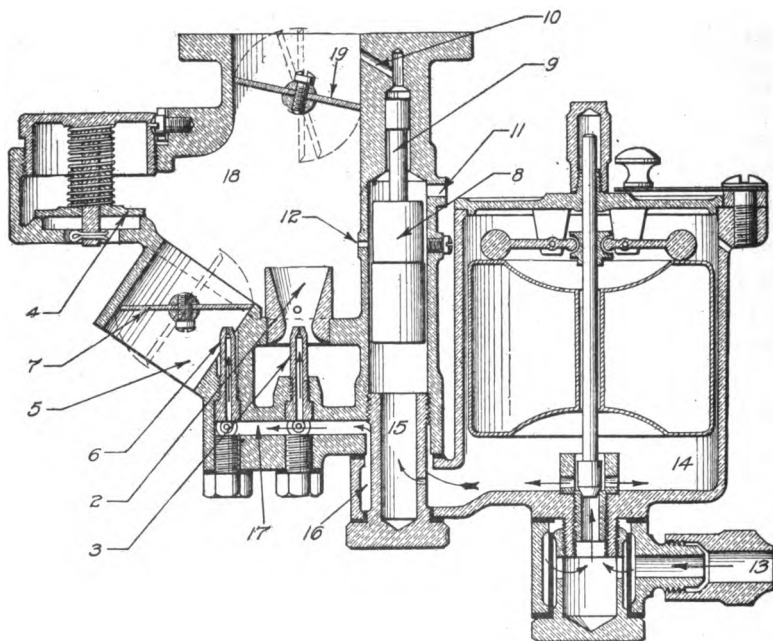

Fig. 105. Section through Ball and Ball Two-Stage Carburetor
**Ball and Ball Carburetor.** The Ball and Ball device has been developed by Frank H. and Frederick O. Ball and is named after them, but it is manufactured and sold by the Penberthy Injector Company. In all its forms, as used on a number of different cars, whether single or double, horizontal or vertical, it is a two-stage instrument. These two stages are called the primary and the secondary. As shown in Fig. 105, the primary stage corresponds to the usual simple air-valve carburetor. This consists of nozzle, or jet, 3, located in the fixed air passage, or Venturi, 2. In the passage above this, it receives its air for complete vaporization from the
second jet 6, so that this starts to function by drawing its gasoline from the same horizontal passage 17 as does the primary jet. If this throttle be connected up to the other throttle in such a way that, when approaching the maximum opening of the main throttle, the secondary throttle begins to open, we have, in effect, two carburetors, one working over the lower range, which gives good idling and splendid economy, and another high-speed and high-power device adding its total effect to that of the primary. The two contradictory and opposed qualities of highest power and highest economy are thus produced by what is, in effect, a double carburetor. This, with variations for various sizes and types of cars, constitutes the Ball and Ball device, shown in section in Fig. 105.